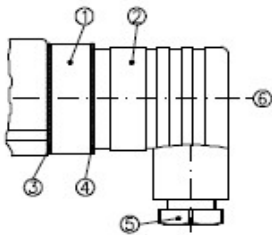

Fig. 5
- Loosen the central screw (pos. 6) M3x35 and remove the cable socket (pos. 2) from the appliance plug (pos. 1) (Fig. 5). Remove the central screw (pos. 6) from the connector (pos. 2).